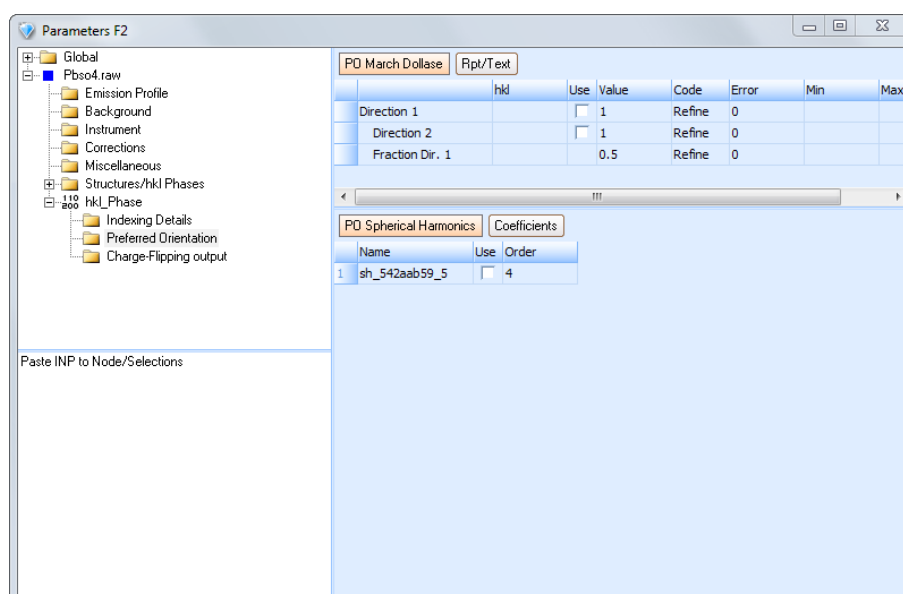

Fig. 4.14: *Preferred Orientation* item
The *Preferred Orientation* item (Fig. 4.14) offers two models for preferred orientation correction.
1. March-Dollase (March, 1932) preferred orientation correction for up to two directions. hkl's provided in the hkl field needs to be separated with spaces as shown in Fig. 4.14.